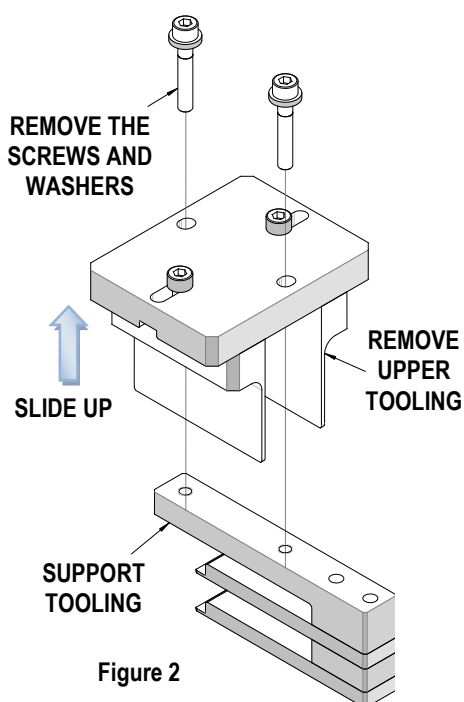

Figure 2
1. Disassemble the (2) halves by unscrewing the screws on the top of the "upper tooling". See Figure 2.